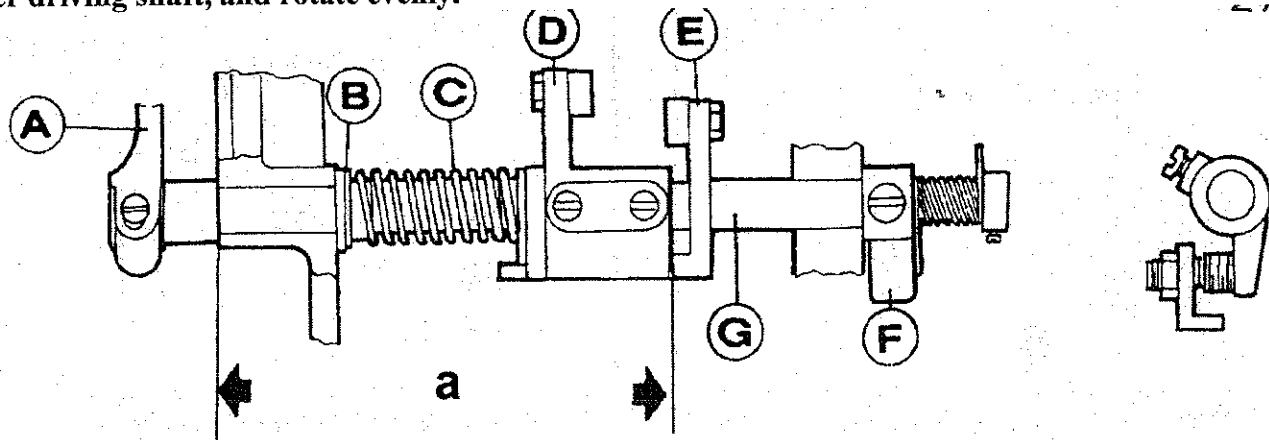

Fig. 27 B-spring end cover C-spring E-thread cutting cam crank 2
The Standard position is shown in figure 27. When assembled, the Cutter Driving Shaft (G) should first be put in Cutter Driving Crank (A). Set Thread Cutting Cam Crank 1 (D) on the cutter driving shaft by referring to the standard position. Set Stopper (F), make sure that there is no clearance between parts around the cutter driving shaft, and rotate evenly.